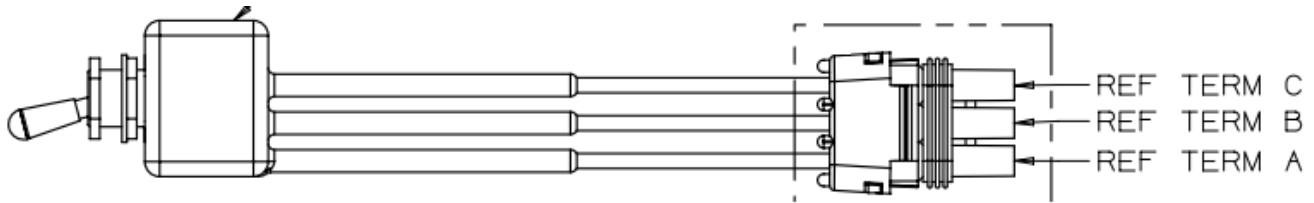

Figure 3: Updated switch wiring
- d. Insert the two wires into the opposite cavity such that wire A is now in cavity C and wire C is now in cavity A. Figure 3 displays the updated wiring